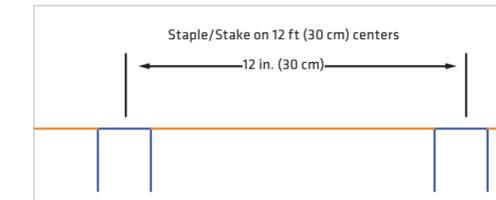

FIGURE 2
2. Unroll the SediMax-FR so the section with the 2 ft wide top netting is the downslope end (splash apron). The splash apron of the SediMax-FR should cover the anchor trench ensuring that approximately 12 in. (30 cm) is extended beyond the lower edge of the anchor trench (Figure 2).